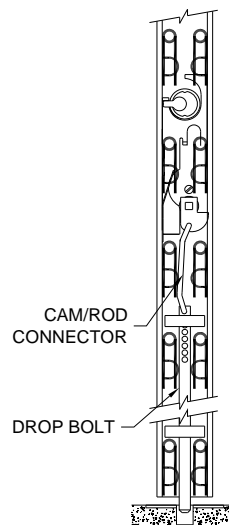

Fig. 4-3
4. Calibrate the closing channel drop bolt by following these steps (shown in Fig. 4-3):